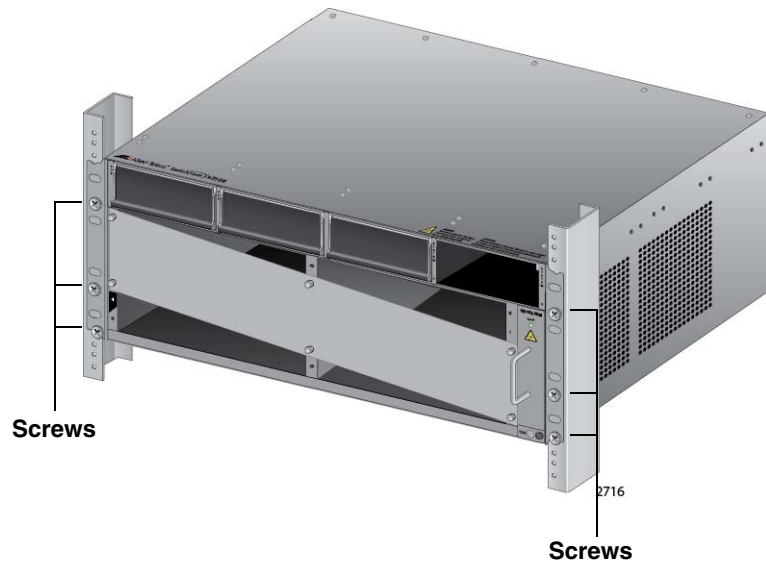

Figure 48. Tightening the Rack Mount Screws
5. Tighten all six screws shown in Figure 48 to secure the chassis to the equipment rack. Allied Telesis recommends tightening the screws to 10 inch-lbs.